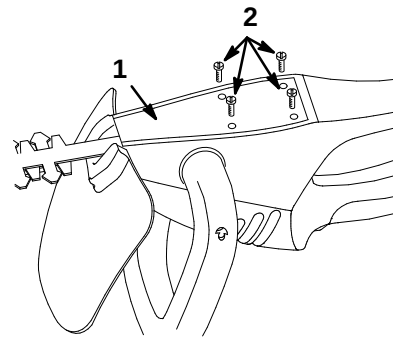

Figure 17
4. Place hedge trimmer upside down on workbench and remove the blade cover screws and the blade cover (Fig. 17).
11. Replace blade cover and secure it with the screws removed previously (Fig. 17)